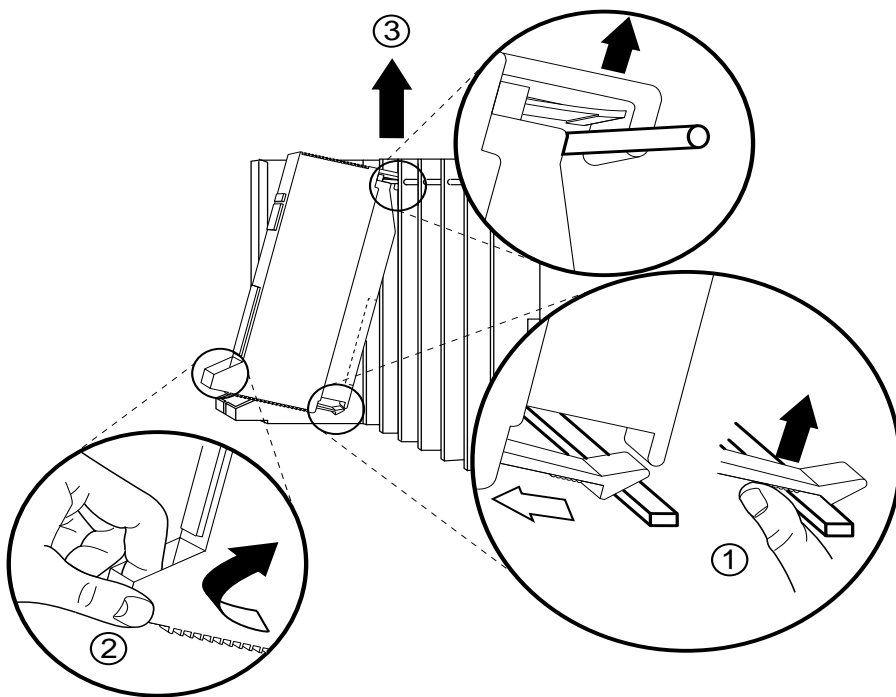

Figure 9-3. Removing a Module from the Carrier
If you are installing an expansion carrier, remove the rightmost module from the control unit and set it aside. See Figure 9-3.
▶ **5. Replace the processor module. See Figure 9-3. Then go to Step 7.**
- ▶ **2. Remove the power supply module to access the housing clips on the leftmost side of the carrier. See Figure 9-3.**
- ▶ 3. Remove the processor module from the carrier. See Figure 9-3.